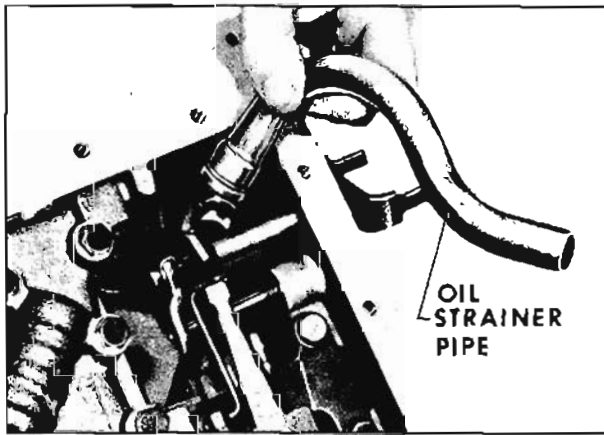

Fig. 6-257 Removing Oil Strainer Pipe
- 3. Lift oil strainer pipe from transmission case. (Fig. 6-257)